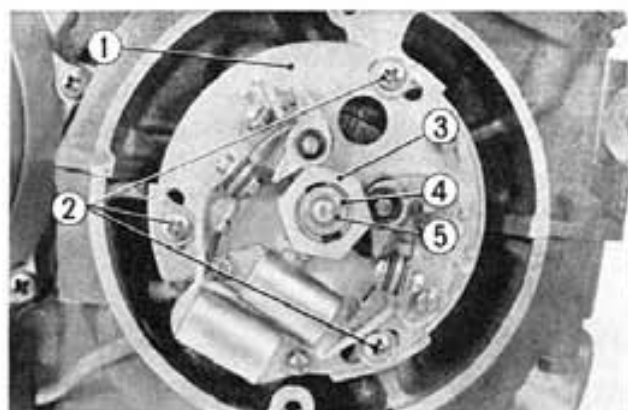

Fig. 7-18 ① Contact breaker assembly
3. Install the advancer shaft special washer, 6mm washer and tighten 6mm hex nut. (Fig. 7-18)